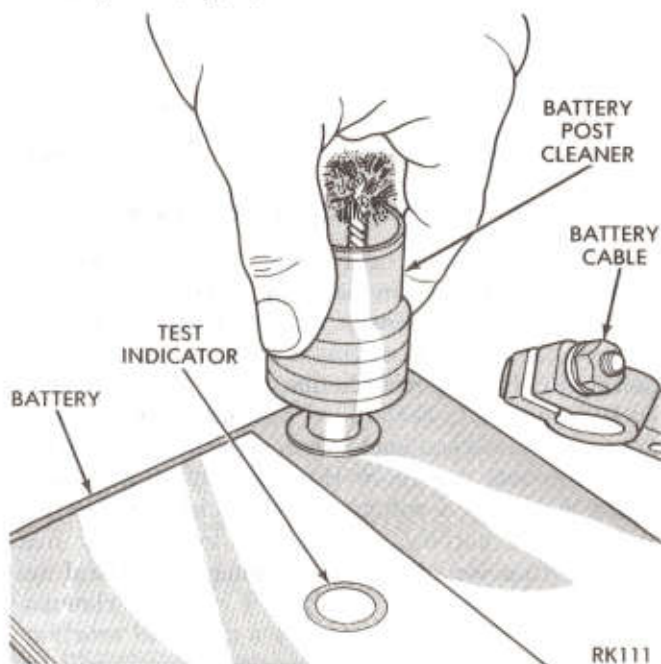

Fig. 6—Cleaning Battery Post
(7) Clean battery post with a suitable battery post cleaning tool (Fig. 6).